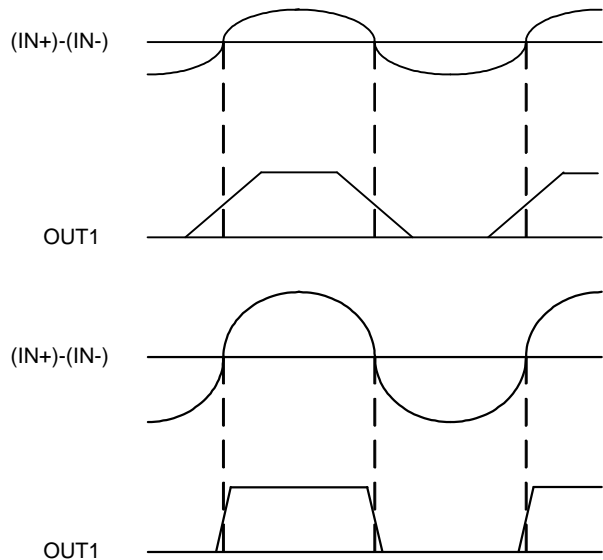

Figure 3. Different of output signal depending on the shape of Hall input signal
1.3V reference is for hall element bias. In case VCC influences the hall signal by board wiring pattern, please connect 0.1μF capacitor between HB and GND. The supply current is just around 130μA at PWM=0 standby mode. This feature will shutdown HB, Amplifier and FG. The output signal of this IC is the amplified hall input signal, therefore, the output signal depends on hall input. When the hall input is small, the output signal becomes gentle. Oppositely, the input signal is large, the output becomes steep (See Figure 3. Different of output signal depending on the shape of Hall input signal).The input/output gain is 48dB (typ.). Therefore, please adjust the amplitude of hall input to meet the adequate output voltage. In the case of long board wiring pattern from hall element to hall signal input terminal, please connect a capacitor between IN+ and IN-.